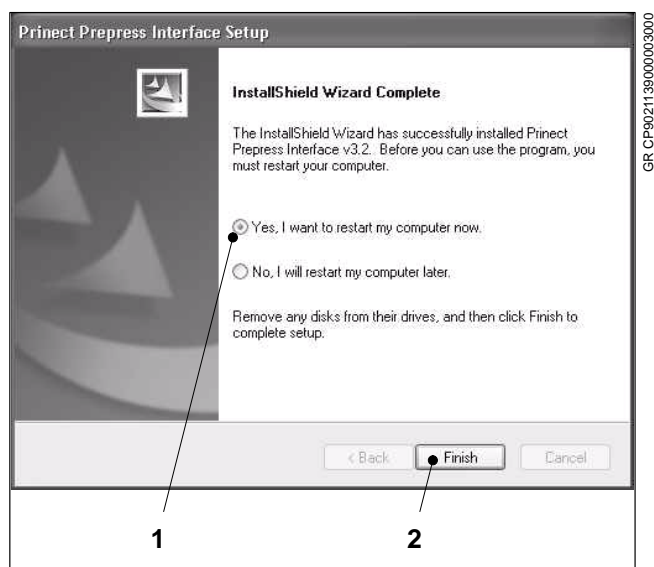

Fig. 18 Restarting the computer
After a short time, the dialog window shown in Fig. 18 is displayed automatically.
7. Now restart your computer by clicking on *Yes, I want to restart my computer now* (Fig. 18/1). Click on the *Finish* button (Fig. 18/2). Your computer restarts automatically.